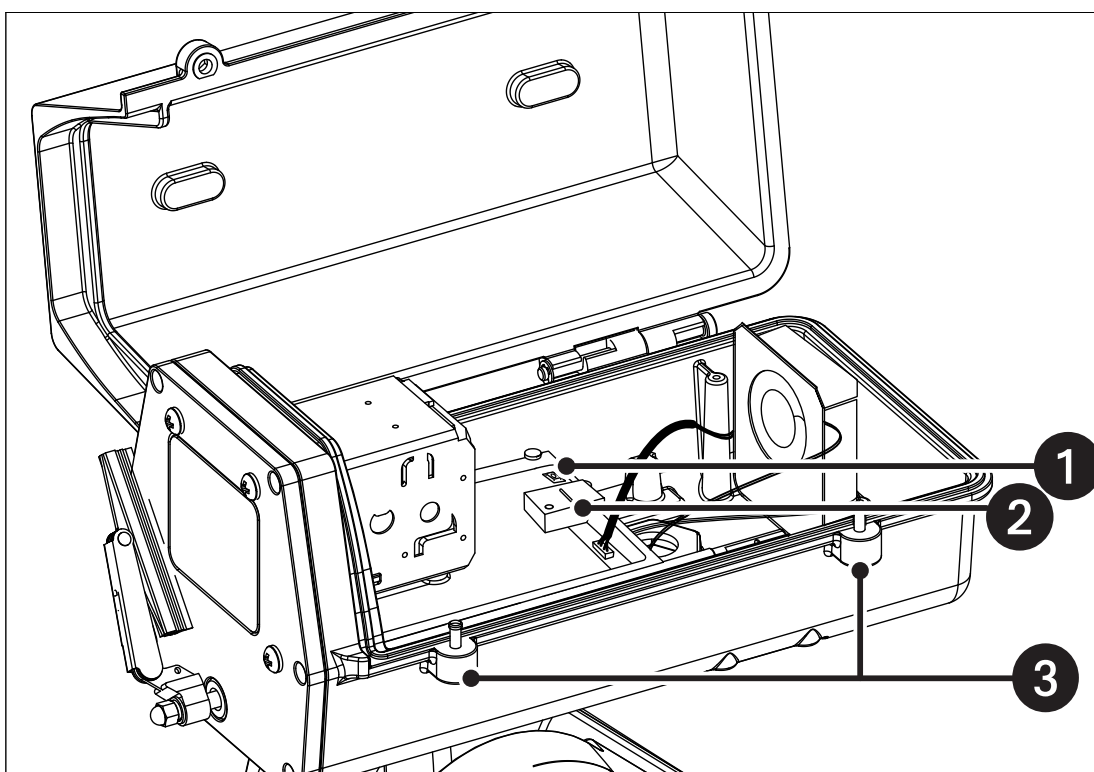

Figure 11. SD Card Installation
1. Unscrew the two screws on the camera enclosure (See #3 in Figure 11) using a 5/32-inch hex bit (not supplied) to open the lid.
2. Insert/remove the SD card into/from the connector located behind the camera (See #2 in Figure 11) (**NOTE:** Orientation of the SD card as identified by the label on the panel.).